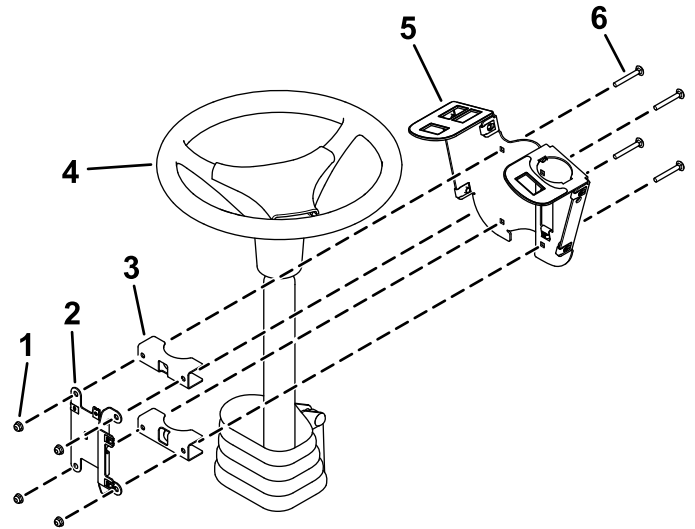

Figure 3
- Loosely install the switch mount around the steering column using 4 carriage bolts (1/4 x 2 inches), 2 mounting brackets, fuse-mount plate, and 4 locknuts (1/4 inch) as shown in Figure 3.